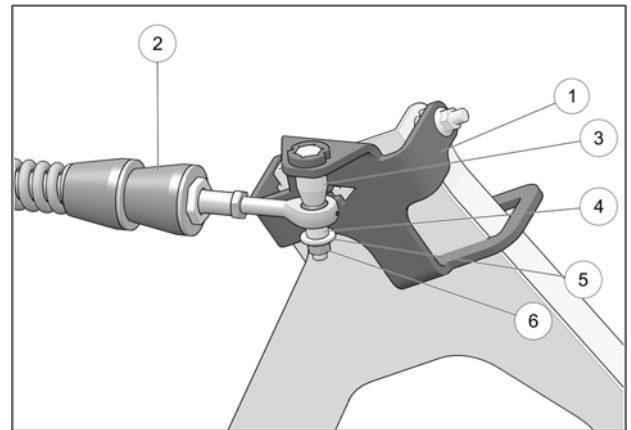

Fig. 13
10. Attach stabilizing rod (2) to anchor bracket (1), using long spacer bushing (3), short spacer bushing (4), flat washer (5) and nut (6). Torque to 70 N•m [52 lb•ft]. See Fig. 13